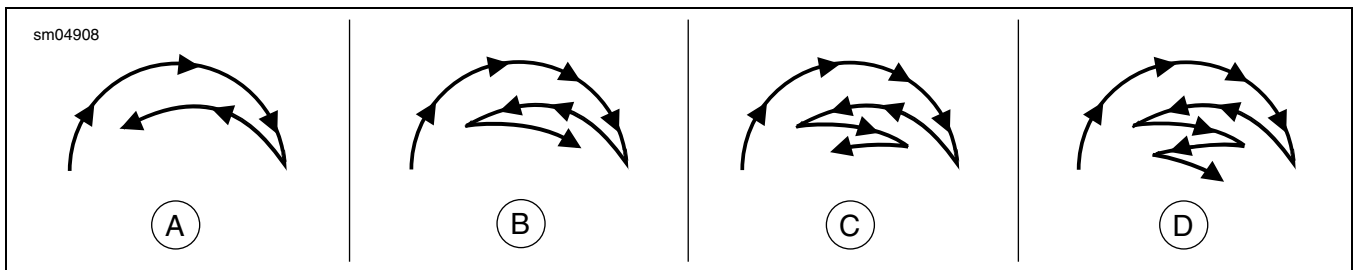

Figure 1-38. Steering Head Bearing Swing Count
3. See Figure 1-38. Turn the front wheel to the left fork stop and then let go. The wheel should swing from side to side, finally stopping in the swing specified in the table shown below. If it stops in the lesser number swing, it should be at or after the straight-forward position.